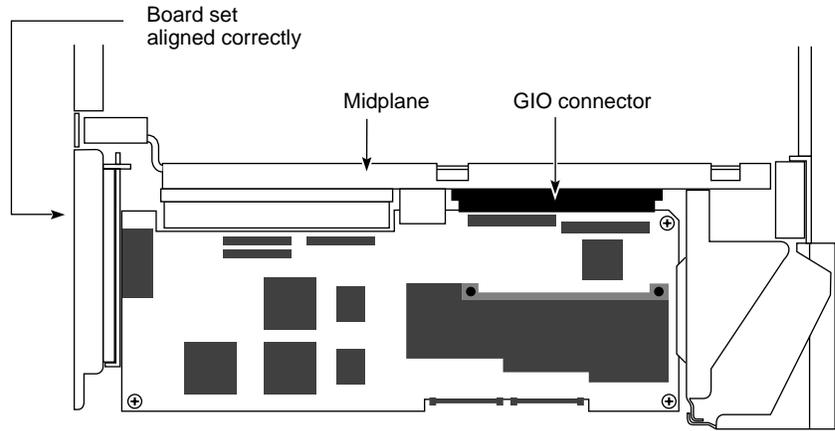

Figure 5-14 Correctly Aligned Board Set, Viewed From Above
3. Visually check to be sure the boards are completely seated in their connectors. The board set should not look tilted when viewed from above. See Figure 5-14.